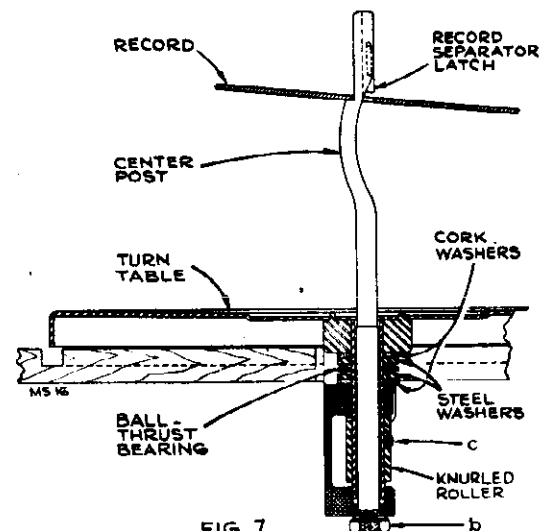

FIG. 7
Remove the center post by removing nut (b) (fig. 7) and tapping end of center post. The turntable can then be removed by loosening set screw (c) on knurled roller and pulling upward with a rotary motion.
- (B) Make certain rubber shock supports (a) on drive motor and mechanism are not drawn up too tight.
- (C) Make certain cork washers are in place on turntable bearing (fig. 7).
- (D) Check for microphonic tube in amplifier.